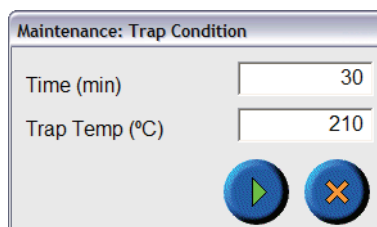

Figure 6.42. Conditioning the #10 Trap
10. From the Maintenance screen, select Trap Condition and condition the trap for 30 minutes to allow the entire system to bake and remove any remaining traces of methanol (refer to Figure 6.42).